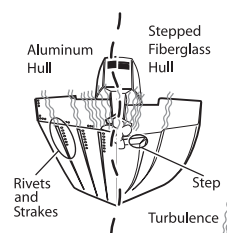

Figure 14
- It is very important to locate the transducer in an area which is relatively free of turbulent water. As a boat moves through the water, turbulence is generated by the weight of the boat, and the thrust of the propeller(s) - either clockwise or counter-clockwise. This turbulent water is normally confined to areas immediately aft of ribs, strakes or rows of rivets on the bottom of the boat, and in the immediate area of the propeller(s) (Figure 14). Clockwise propellers create more turbulence on the port side. On outboard or inboard/outboard boats, it is best to locate the transducer at least 15" (380 mm) to the side of the propeller(s).